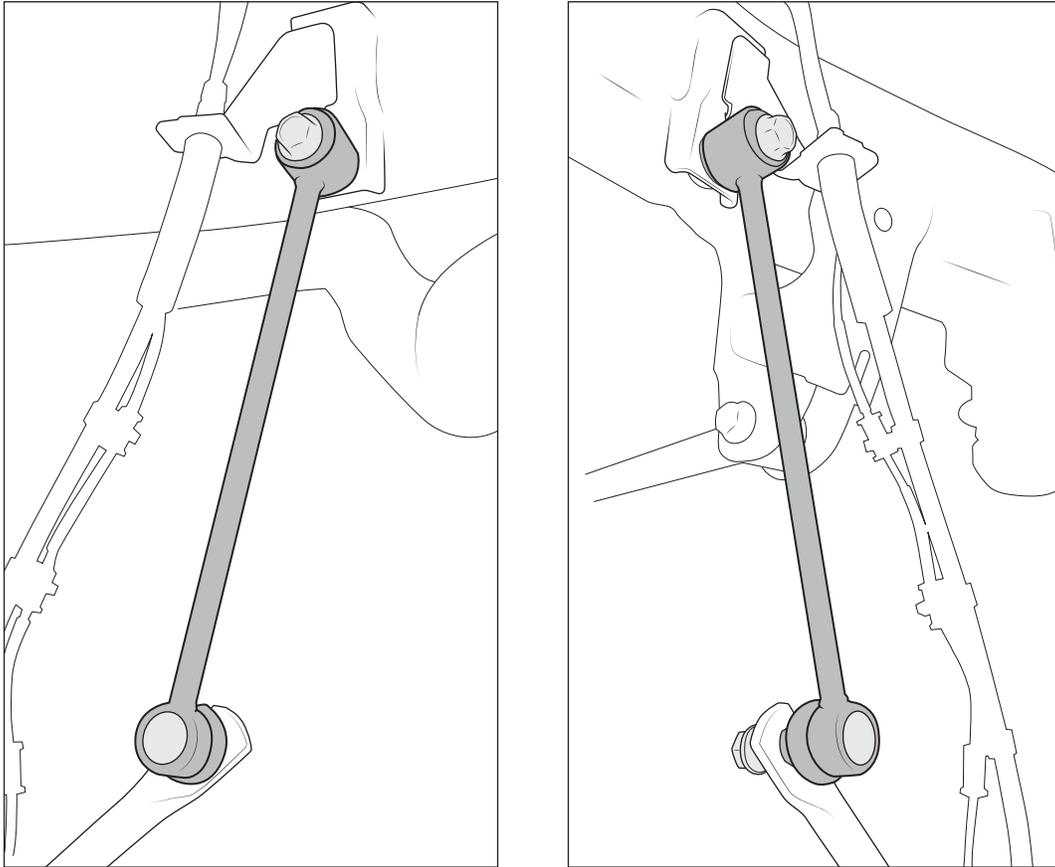

Figure 9
12. Install new AEV endlinks in factory orientation. Use provided M12x60mm FINE THREAD bolts and flat washers at upper frame attachment and M12 COARSE THREAD flange nuts at lower sway bar studs (fig.9). Torque top endlink bolt to 55 lb-ft and lower nut on stud to 37 lb-ft. Reattach ABS lines (step 5), and install wheels using factory hardware.